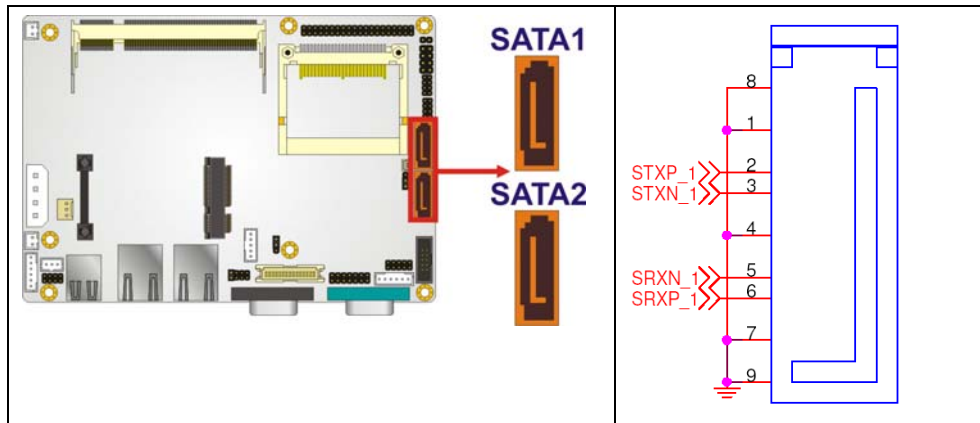

Figure 3-10: SATA Drive Connector Locations
- CN Location:** See Figure 3-10